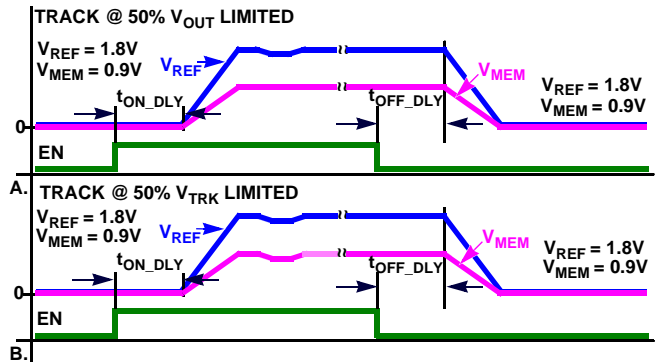

FIGURE 20. RATIO-METRIC TRACKING
- a. Track at 50% V_{OUT} limited. Member rail tracks the reference rail and stops when the member reaches 50% of the target voltage, Figure 20 (A).
- b. Track at 50% VTRK limited. Member rail tracks the reference at the instantaneous voltage value applied to the VTRK pin until the member rail reaches 50% of the reference rail voltage, or if the member is configured to less than 50% of the reference the member will achieve its configured target, Figure 20 (B).
Tracking Configuration Figure 20 (A)
Tracking Configuration Figure 20 (B)